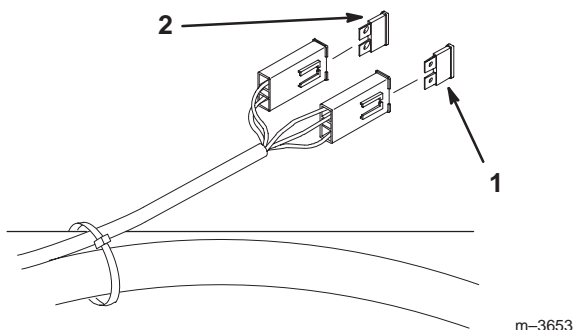

Figure 55
1. Raise the seat to gain access to fuse holder (Fig. 55).
2. To replace fuses pull out on the fuse to remove it (Fig. 55).